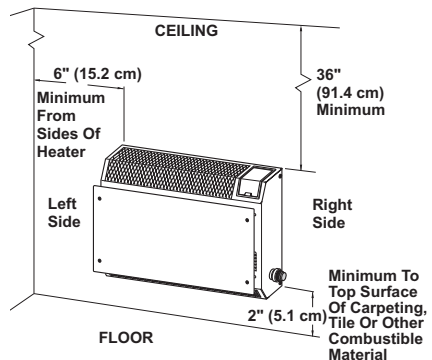

Figure 8 - Mounting Clearances As Viewed From Front of Heater
**WARNING:** Maintain the minimum clearances shown in Figure 8. If you can, provide greater clearances from floor, ceiling and joining wall.